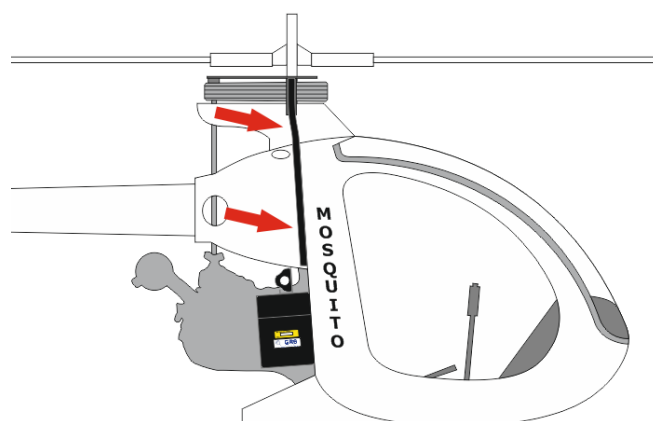

Figure 8
- 5) Stick the Velcro® strap with "loops" on the fuselage of the helicopter along the firewall (Figure 8).